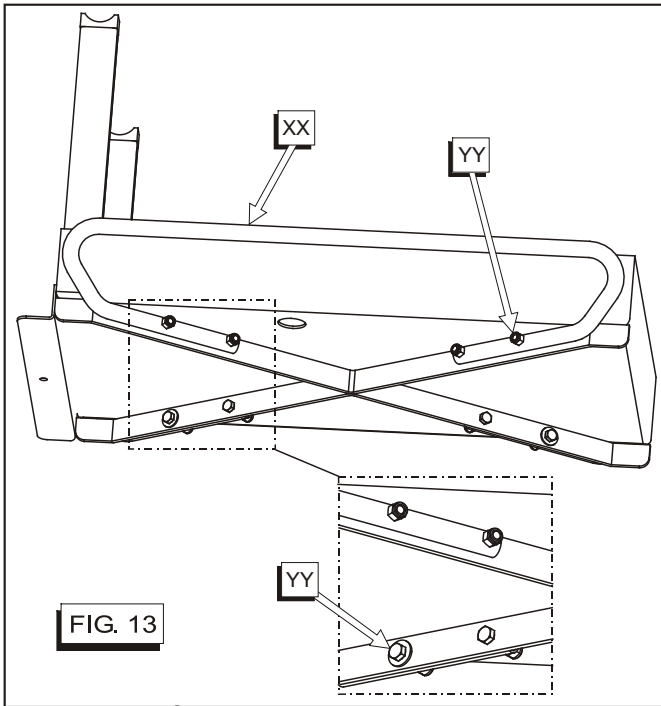

FIG. 13
- Attach the Lifting Handles (XX) as shown in FIG. 13 using the Mounting Hardware (YY) that is provided. Mount the hardware with the nuts toward the outside of the frame and the capscrews toward the inside of the frame. This will simplify mounting the saw on the Optional Stand. Four washers are to be assembled over the "slots" in the frame. Four of the eight washers are not required, but can be used if desired over the remaining holes. **Tighten the hardware securely.**
**WARNING: Make sure that Handle Mounting Hardware (YY) is securely tightened before transport of the frame or re-assembly of the complete unit. Failure to do so could result in serious injury to the operator or other persons in the work area!**